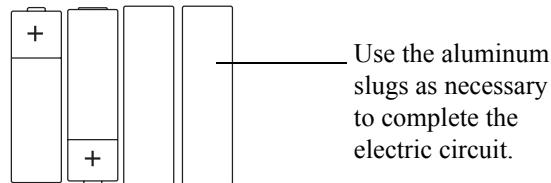

Figure 2. Supplying three different voltages by installing two, three or four batteries.
1. Change the speed of the Fan Accessory by using two, three, or four batteries. When using less than four batteries, insert the slugs as necessary to complete the circuit (Figure 2).